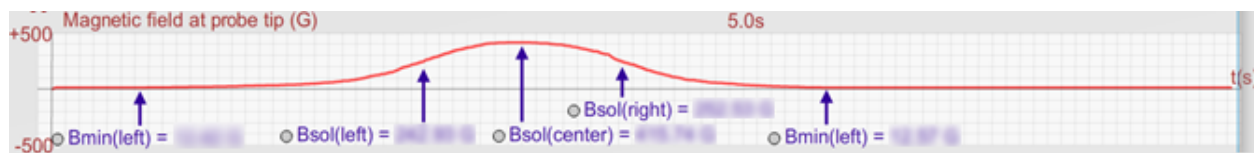

Figure 6: Magnetic Field at 5 Key Positions Along the Solenoid Axis
- c Because of the size of the text, you'll have to stack some of the labels to make them all fit. See Figure 6. In that figure you'll also see that the labeled points will not be symmetrically spaced as they actually should be. This is due to the difficulty of moving the probe at a constant speed. The steadier your mouse motion, the closer it approximates a magnetic field vs. position graph. If you wanted to do some serious reverse engineering you could use the separation vs. time graph, which shows the steady increase in speed that produced Figure 6. Hopefully you have better things to do with your time.
- d Take a Screenshot of your magnetic field graph and save it as "Faraday_Bmin_max.png". Upload it and/or print it out and attach it to your lab report to turn in. It should look something like Figure 6.
- 6 With steady jiggling, where along the solenoid axis is the greatest emf produced? Why? (Look back at the graph you created in Part IB (Figure 6). And re-read the note about equations 3 and 4.)
- 7 As shown by Figure 6, the solenoid's field is at a maximum near its center and nearly zero far away from the solenoid. Why is the emf produced at both these places so small?